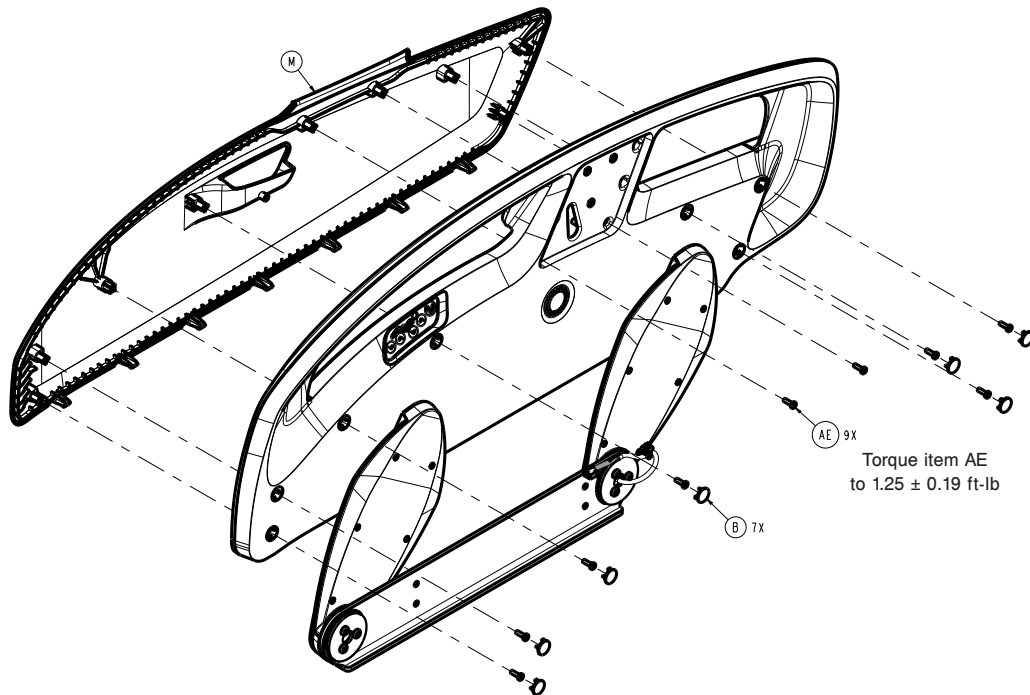

Figure 50 – Replacing the siderail control board
6. Using a pick, remove the seven screw covers (B) from the inside of the siderail (Figure 50). Discard the screw covers.
9. Using a T25 Torx driver, remove the nine screws (AE) that secure the head cover (M) to the siderail assembly (Figure 50). Save the screws. Remove and save the outer siderail panel.
9. Using a T25 Torx driver, remove the nine screws (AE) that secure the head cover (M) to the siderail assembly (Figure 50). Remove the outer siderail panel.